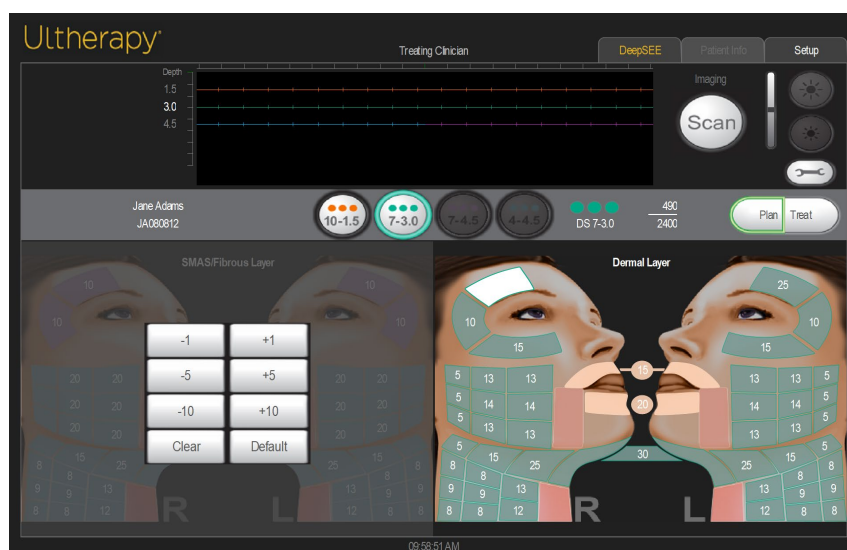

Figure 7.13 Example of selected region after **Clear** button was selected
7. The **CLEAR** button will clear the treatment line count introduced to that region. The user can leave a region without a predefined transducer line count by selecting **CLEAR** on the toggle keyboard and not assign a value as shown in Figure 7.13.